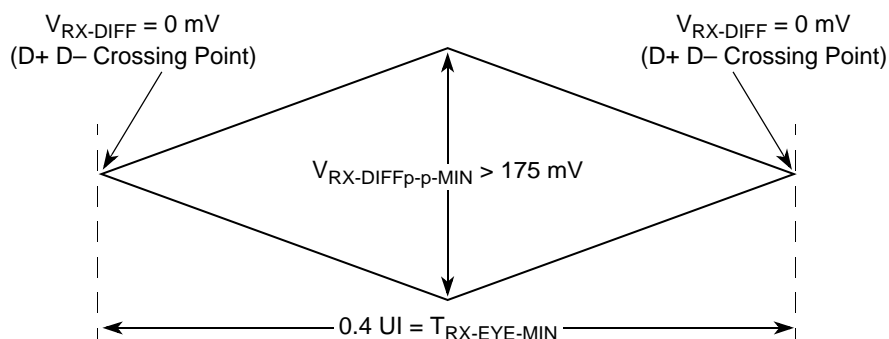
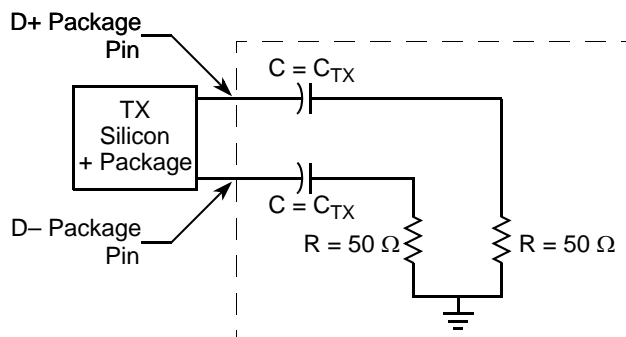

Figure 49. Minimum Receiver Eye Timing and Voltage Compliance Specification
Figure 50. Compliance Test/Measurement Load
2. Specified at the measurement point and measured over any 250 consecutive UIs. The test load in Figure 50 must be used as the RX device when taking measurements (also see the receiver compliance eye diagram shown in Figure 49). If the clocks to the RX and TX are not derived from the same reference clock, the TX UI recovered from 3500 consecutive UI must be used as a reference for the eye diagram.
4. The receiver input impedance shall result in a differential return loss greater than or equal to 15 dB with the D+ line biased to 300 mV and the D– line biased to –300 mV and a common mode return loss greater than or equal to 6 dB (no bias required) over a frequency range of 50 MHz to 1.25 GHz. This input impedance requirement applies to all valid input levels. The reference impedance for return loss measurements for is 50  $\Omega$  to ground for both the D+ and D– line (that is, as measured by a vector network analyzer with 50- $\Omega$  probes—see Figure 50). Note: that the series capacitors CTX is optional for the return loss measurement.
The RX eye diagram in Figure 49 is specified using the passive compliance/test measurement load (see Figure 50) in place of any real PCI Express RX component.
Note: In general, the minimum receiver eye diagram measured with the compliance/test measurement load (see Figure 50) is larger than the minimum receiver eye diagram measured over a range of systems at the input receiver of any real PCI Express component. The degraded eye diagram at the input receiver is due to traces internal to the package as well as silicon parasitic characteristics which cause the real PCI Express component to vary in impedance from the compliance/test measurement load. The input receiver eye diagram is implementation specific and is not specified. RX component designer must provide additional margin to adequately compensate for the degraded minimum receiver eye diagram (shown in Figure 49) expected at the input receiver based on some adequate combination of system simulations and the return loss measured looking into the RX package and silicon. The RX eye diagram must be aligned in time using the jitter median to locate the center of the eye diagram.
The reference impedance for return loss measurements is 50. to ground for both the D+ and D– line (that is, as measured by a vector network analyzer with 50-Ω probes—see Figure 50). Note that the series capacitors, CTX, are optional for the return loss measurement.
The AC timing and voltage parameters must be verified at the measurement point, as specified within 0.2 inches of the package pins, into a test/measurement load shown in Figure 50.